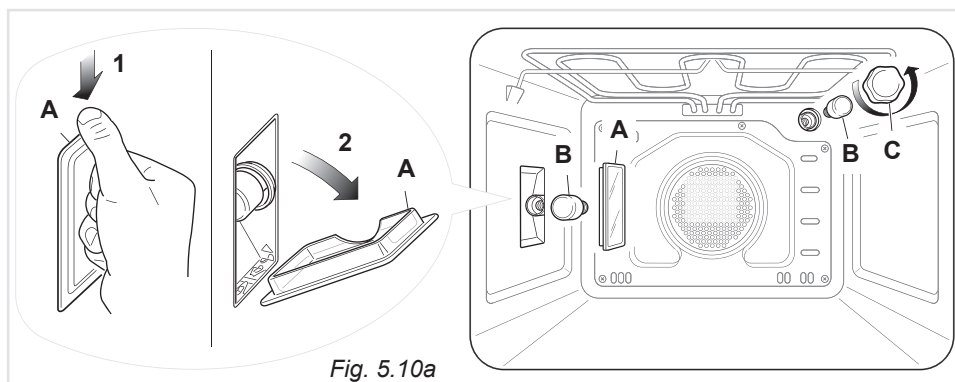

Fig. 5.10a
- Remove the protective cover “C” (fig. 5.10a).
- Press down from the top the protective cover “A” (fig. 5.10a) and remove it by rotating on the lower side.